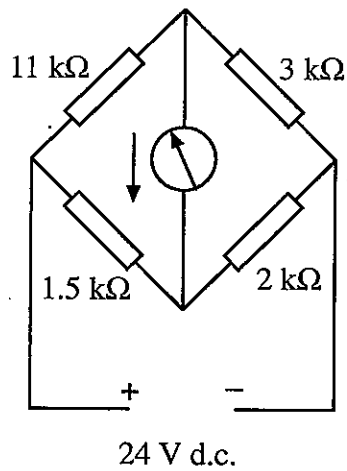

Fig Q1
1. • In the network shown in Fig Q1 the meter indicates 2mA in the direction shown.